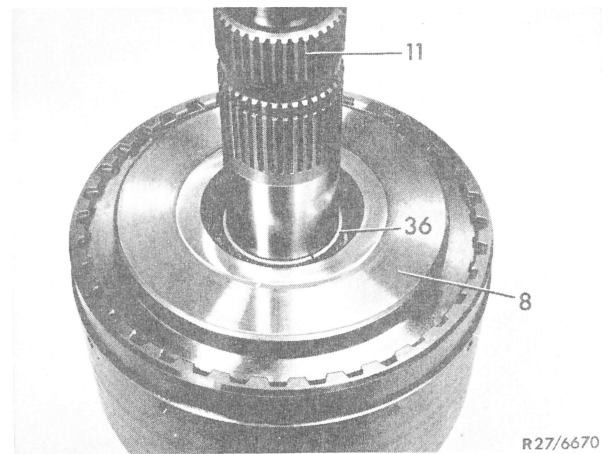

Fig. 18
29 Insert radial bearing (36) in between hollow shaft (11) and supporting flange K 2 (8) (Fig. 18).